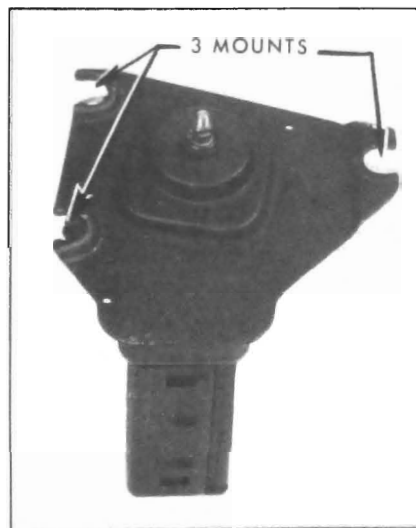

Figure 10-107—Single Speed Wiper
1. Remove washer pump drive cam as required (Figure 10-107). The cam is pressed on the shaft but can be wedged off by using two screwdrivers between cam and plate.